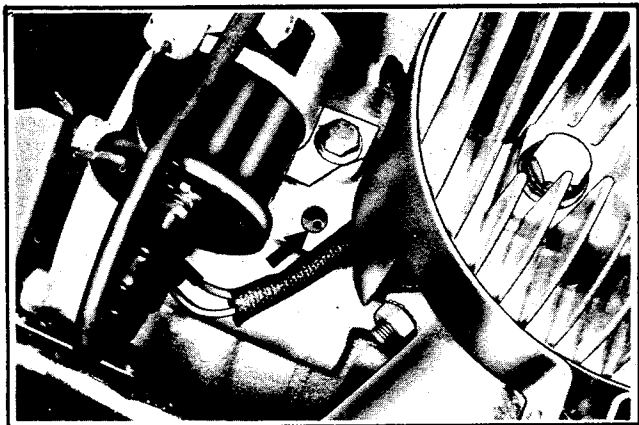

Figure 5F-11C. Flywheel Timing Marks
#### 1963-66 Model D, DC and 1967-68 Model DC (Fig. 5F-11)
3. Turn engine crankshaft clockwise in operating direction until blower blade (12) aligns perfectly with forward mark (11) on blower housing. This is the point at which circuit breaker contacts should just start to open (retarded timing). See Fig. 5F-11.